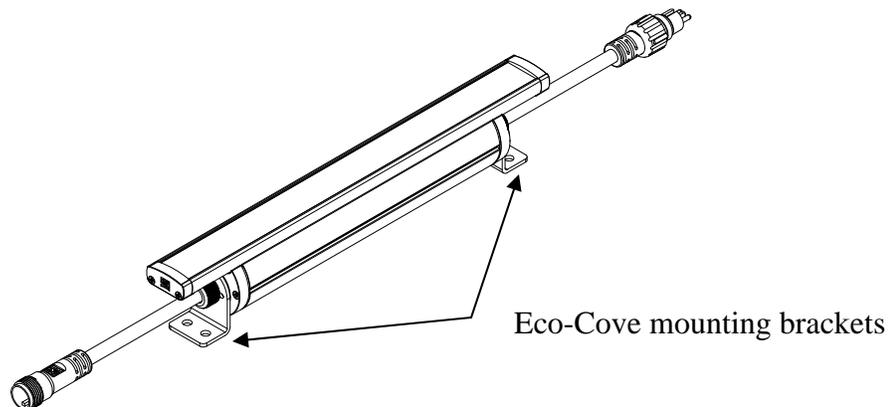

FIG 1.
1. Secure the fixture(s) to the mounting surface (FIG 1)